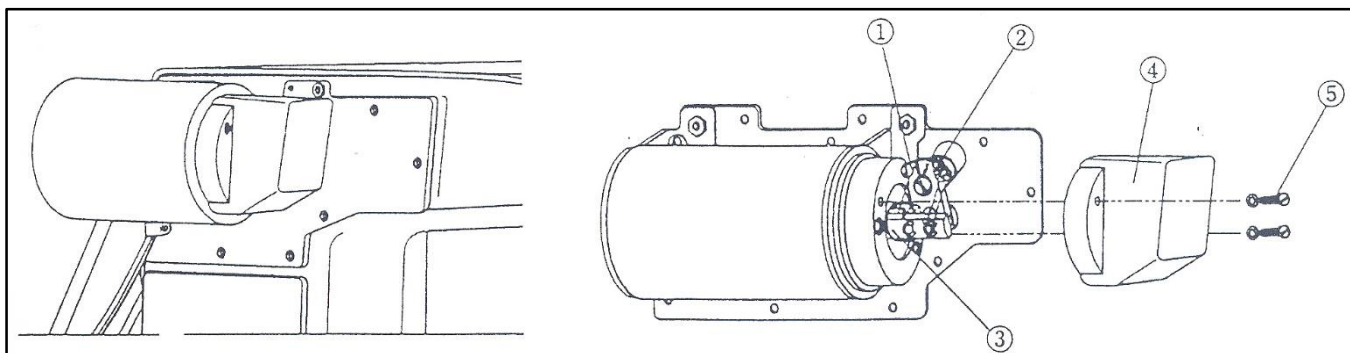

Figure 7.11
Presser foot travel can be adjusted on the presser foot solenoid crank (3). Referring to Fig. 7.11 Release the screws (5) securing the solenoid cover (4). Release screw (2) for the solenoid crank pivot. Rotating the pivot (1) clockwise will increase the foot travel, anticlockwise will reduce the presser foot travel.